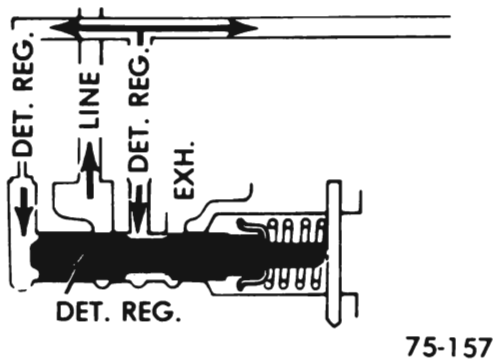

Figure 75-25 - Detent Regulator Valve
**L. Detent Regulator Valve (See Figure 75-25)**